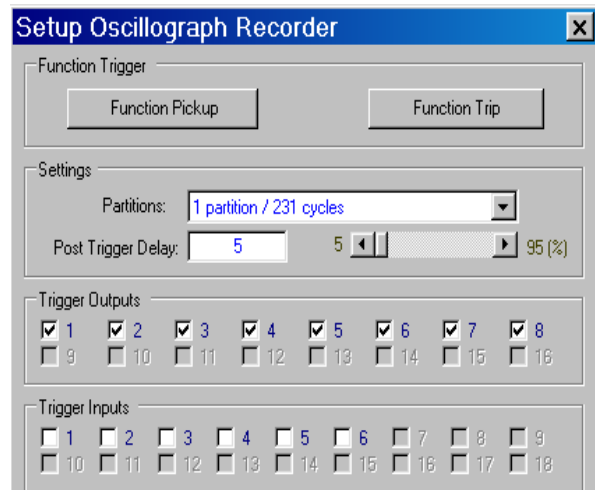

Figure 4-12 Setup Oscillograph Recorder
1. From the IPScom Main Screen menu select **Relay/Oscillograph/Setup**. IPScom will display the Setup Oscillograph Recorder dialog screen (Figures 4-12 and 4-13).